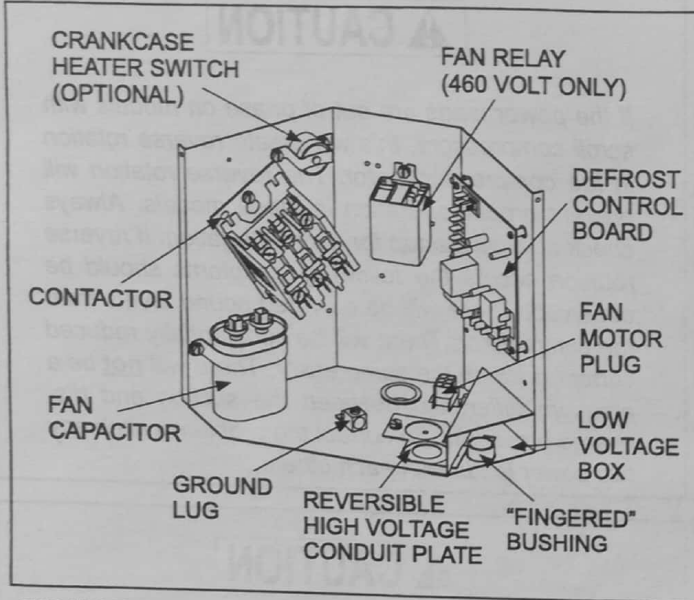

FIGURE 4 : OUTDOOR UNIT CONTROL BOX (036 & 048 MODELS)
The adjustable High Voltage Conduit Plate is factory installed for 1/2" conduit connections. For 3/4" conduit, remove the screw holding the plate in place and adjust the location of the holes. For 1" conduit, remove the conduit plate and discard. Re-install screw to maintain the integrity of the unit structure, regardless of the conduit being used. See Figures 4 & 5.
4. Power connection to the unit is facilitated by screw terminals, L1, L2 & L3 on the outdoor unit contactor. See Figures 4 & 5.
1. Route the low voltage cable through the fingered bushing in the low voltage junction box. See Figures 4 & 5.